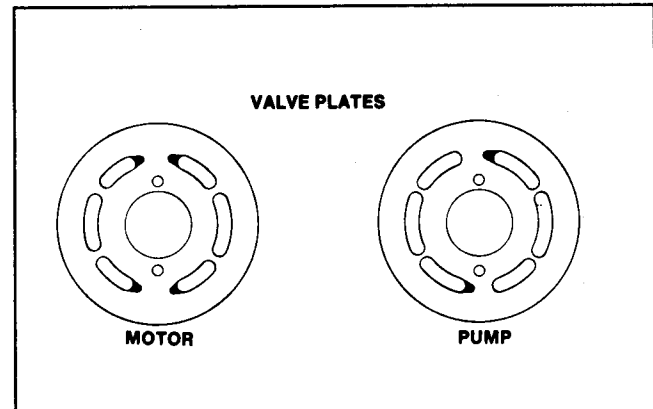

Figure 51
**NOTE:** The motor valve plate and the pump valve plate are not interchangeable. Identify the motor valve plate by the four (4) V-notches in the kidney-shaped grooves (Fig. 51). The pump valve plate has two (2) notches in the grooves.
18. Carefully position the center section onto the transmission housing so that the valve plates and cylinder block assemblies remain in place. Insert the eight (8) cap screws and tighten them equally in small increments to a torque of 25 to 30 ft-lbs (3.5 to 4.1 KgM). Check for proper internal assembly by slowly rotating the pump, motor, and control shafts while tightening these screws.